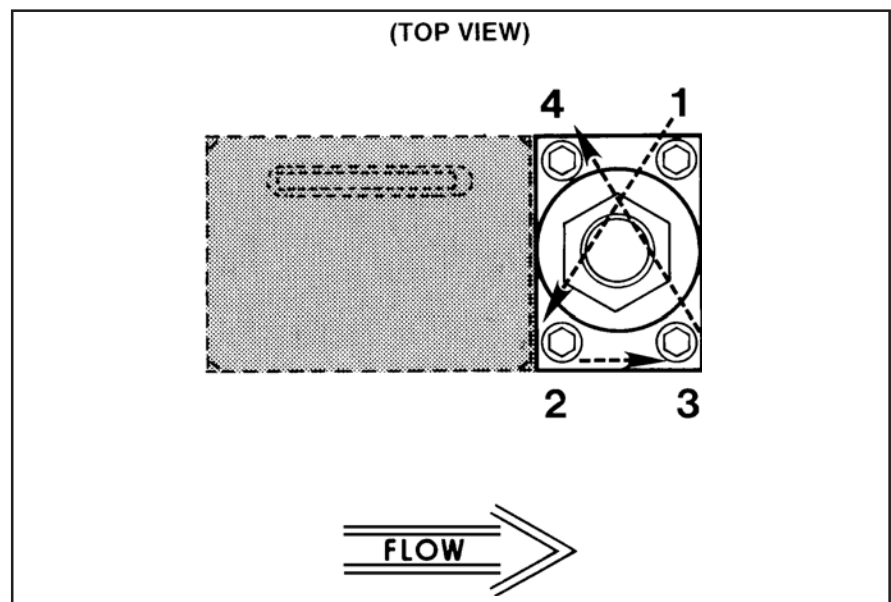

Figure 4-1 Torque Sequence for the Valve Retainer Plate
2. Place the restrictor O-ring (22) on the restrictor assembly. Screw the restrictor assembly (21) into the inlet side of the flow controller body using the restrictor tool, tighten hand tight.
3. Press the lubricated sensor O-rings (17) into the flow controller body (14). Install the sensor assembly and secure with two screws (18) and washers (19) tightened to 15 in/lbs.
4. Install the orifice (12) and its O-ring (13), using a 3/8 nut driver. Insure that the orifice is fully seated but do not overtighten.
5. Insert the valve preload spacers (10)(NC Valve) or (33)(NO Valve), if used, into the valve cavity in the flow controller body (14). Use care to preserve the correct order.
6. Place the spacers (9) and spring (8) on the valve seat (11) in the same order as noted in step 8 of the disassembly. Screw the valve seat (11) into the plunger assembly (7)(NC Valve) or (35,31,32)(NO Valve). Tighten the assembly until there is no looseness, but do not overtighten.
7. Install the valve plunger assembly (7, 8, 9 and 11)(NC Valve) or (35,31,32,8,9,11)(NO Valve) on the preload spacers (10). Install air gap spacers (10), if used on top of the valve spring.
8. Install the valve stem assembly (6), secure with the valve retaining plate (4) and four hex socket screws (3). When installing the screws they should first make light contact with the plate, which should be checked to insure that it makes full contact around the stem assembly. Torque
- the screws securing the valve retaining plate in diagonal pattern (Refer to Figure 4-1) to 17 in/lbs.
9. Install the coil assembly (2) over the valve stem assembly (6)(NC Valve) or (34)(NO Valve) install extension spacer nut (3)(NO Valve) and secure with jam nut (1).
10. Install the printed circuit (PC) Board (15), secure with the bracket (24) and two screws. Plug the connector from the sensor assembly onto the PC Board. The flow arrow on the connector should be pointing toward the valve assembly.
11. Install the electronics cover (23) on the controller, secure with three screws (20). Plug the connector from the valve coil into the PC Board through the hole in the electronics cover.